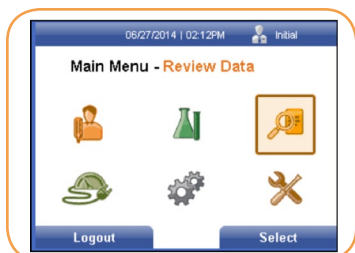

FIGURE 75
- Using the [→] or [←] keys, select the Review Data icon from the *Main Menu* screen (Figure 75).